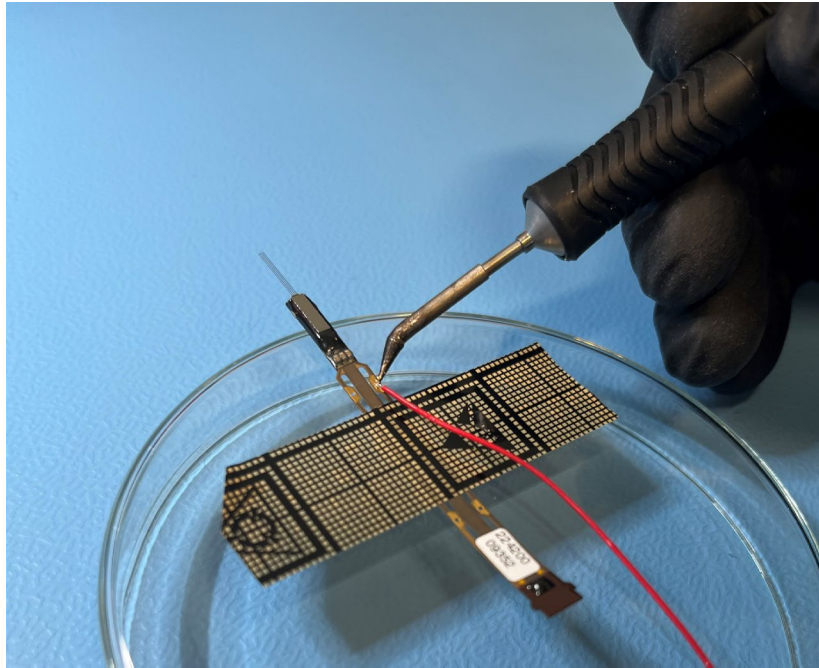

Figure 46: Placing the solder tip in the corner between wire and pad.
- Insert the wire through the hole in the solder pad. Place the solder iron at the corner between the pad and the GND/REF wire. (Figure 46)